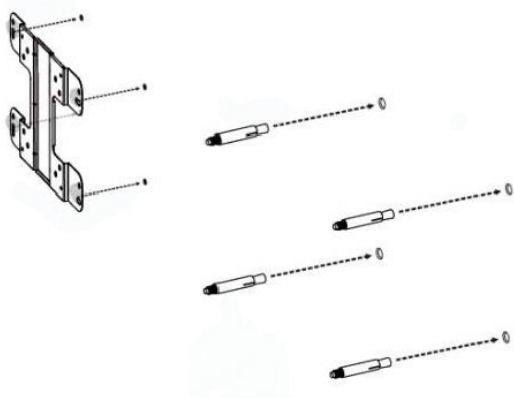

Figure 9: Preparing the mounting location
3. Place and lock the flat washer on the cap screws and attach the mounting plate to the back of the DWL-8710AP using the screws as illustrated in figure 9.